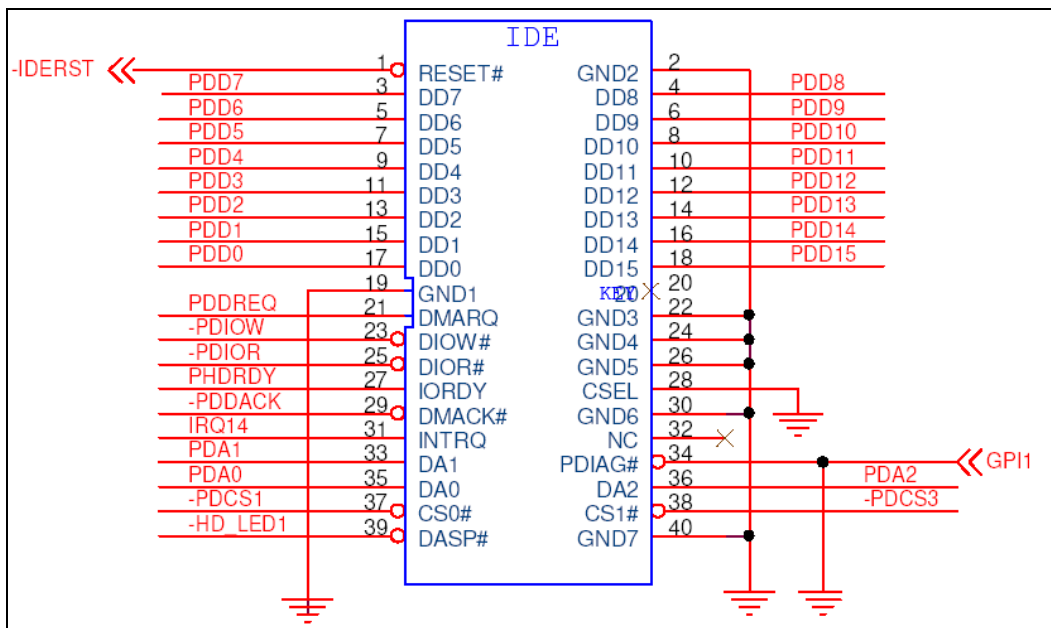

Figure 4-9: IDE Device Connector Locations
- CN Location:** See **Figure 4-9**